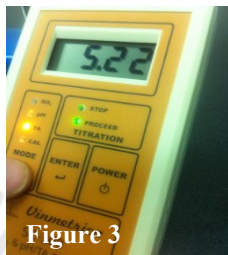

Figure 3
6. Navigate to either pH or TA using the MODE button (**Figure 3**).